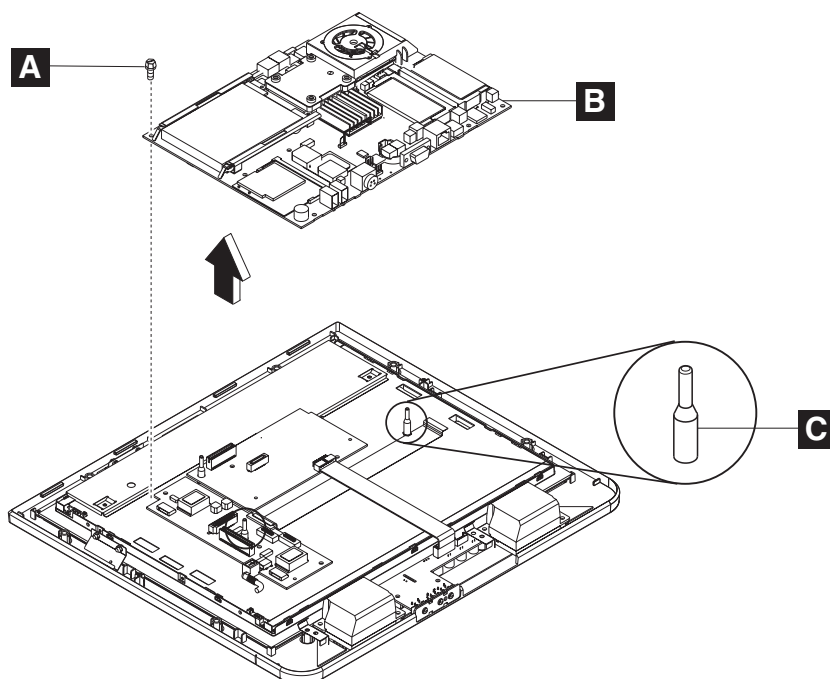

Figure 24. Removing the system board
4. See Figure 24 and remove the 5 screws (A) that hold the system board (B).